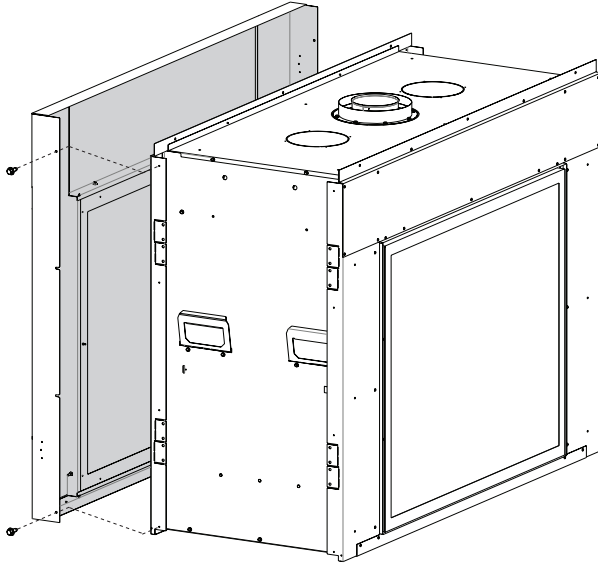

Figure 3
- Slide the decorative front over the rear of the fireplace and attach with 4 screws provided per side (L and R). Tighten 4 screws loosened earlier. **See Figures 3 and 4.**